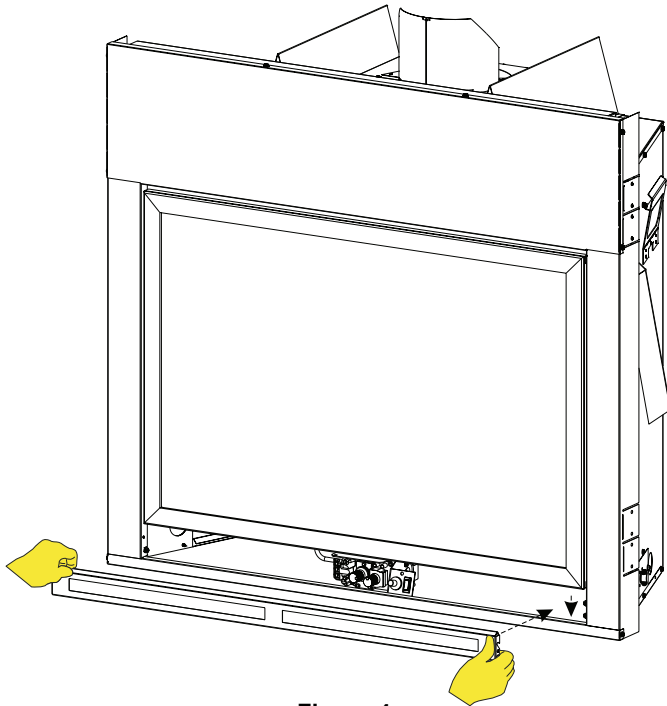

Figure 4
- Replace lower panel removed in Step 1. **See Figure 4.**